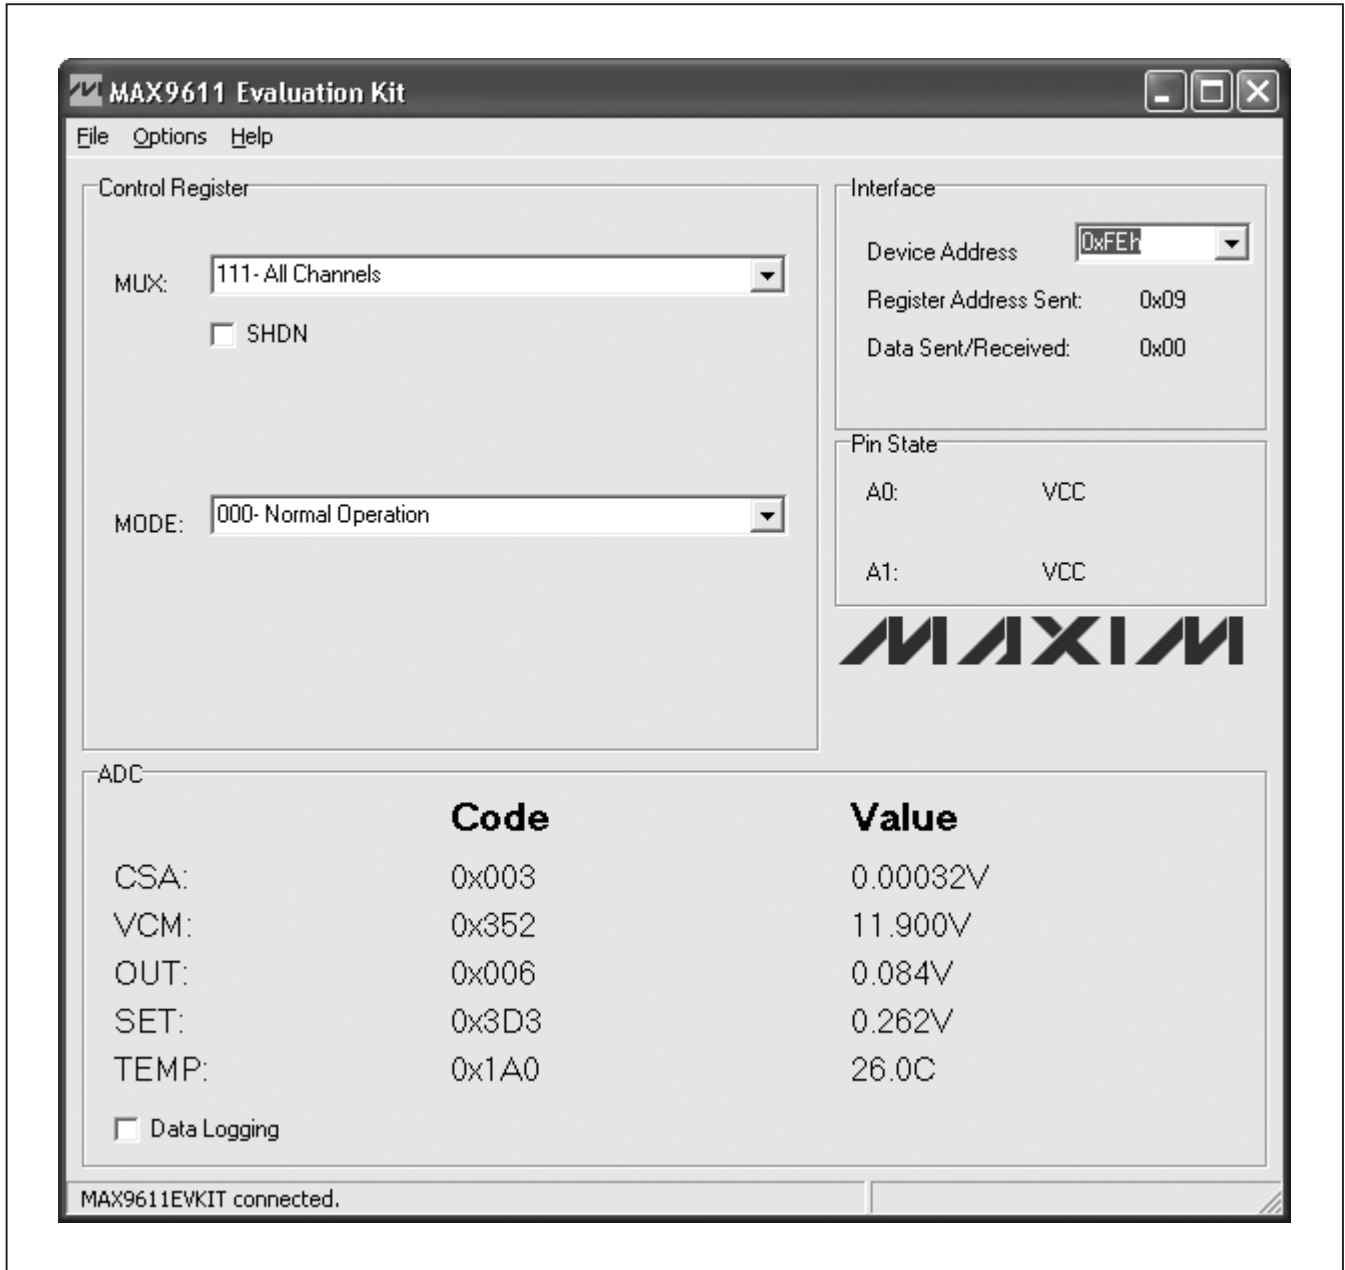
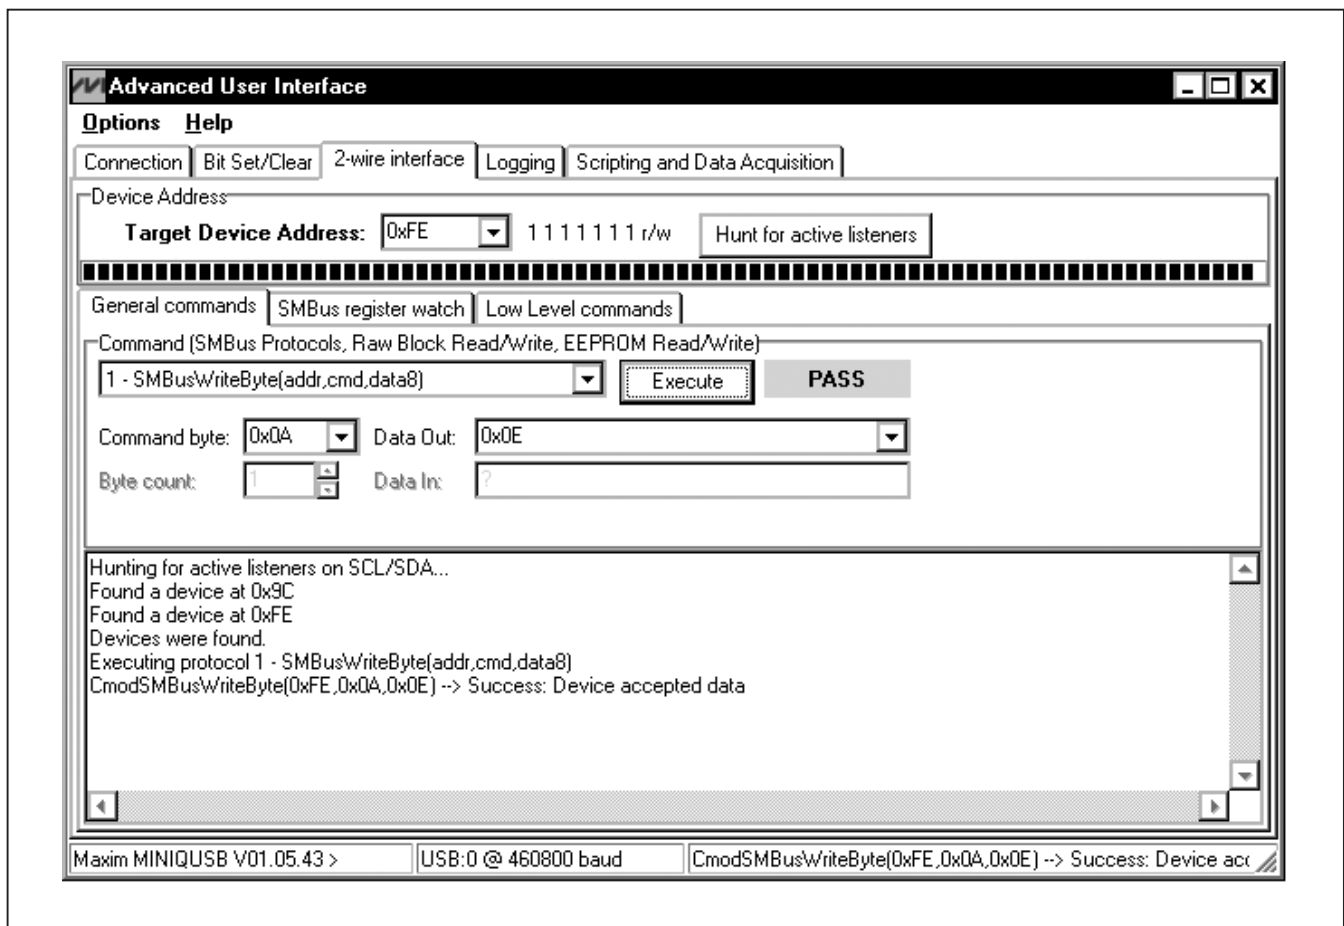

Figure 1. MAX9611 EV Kit Software Main Window
Figure 2. Example of an SMBusWriteByte Operation Using the Advanced User Interface
- 11) Start the EV kit software by opening its icon in the **Start | Programs** menu. The EV kit software main window appears, as shown in Figure 1. Observe as the program automatically detects the address of the device and starts the main program.
The user interface (Figure 1) is easy to operate; use the mouse or press the Tab key to navigate with the arrow keys. Each of the buttons correspond to bits in the command and configuration bytes. By pressing these buttons, the correct I²C-compatible write operation is
There are two methods for communicating with the device. The first is through the window shown in Figure 1. The second is through the **Advanced User Interface** window shown in Figure 2. The **Advanced User Interface** window becomes available by selecting the **Options | Interface (Advanced User)** menu item and allows execution of serial commands manually.